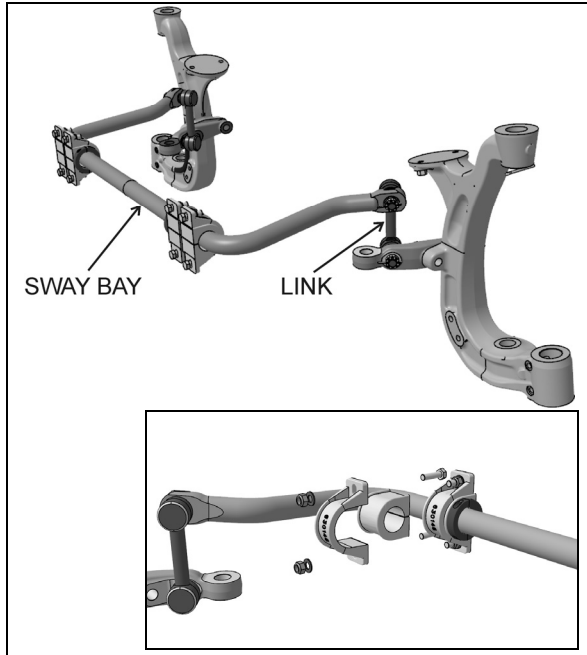

FIGURE 36: SWAY BAR (INDEPENDENT FRONT SUSPENSION) 16138_C
5. Install the shock absorber as shown in figure 36 with the mounting stud protruding through the hole in the mounting bracket and the shock absorber eyes over the mounting pins. Install the outer washer.